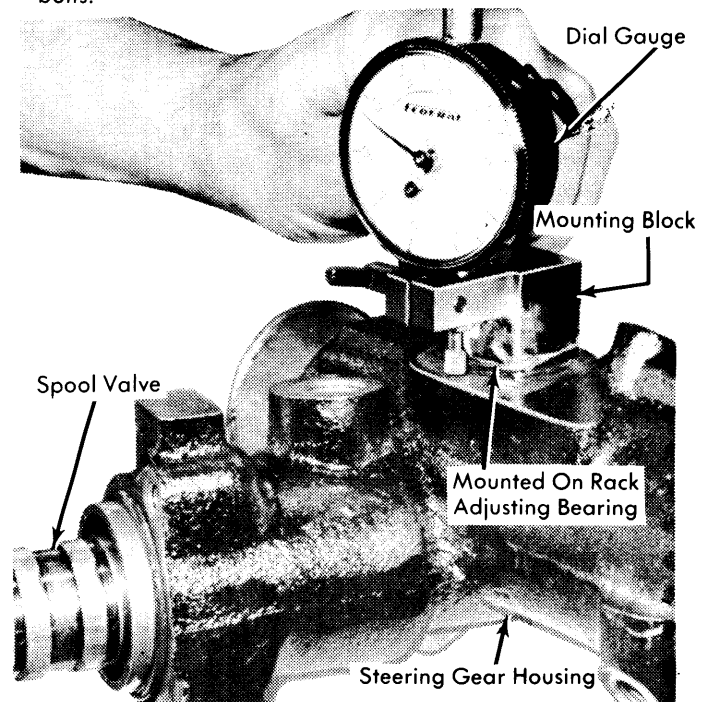

Fig. 9 Measuring Rack Adjusting Bearing Deflection
5) Screw lower bearing seat onto pinion shaft. Adjust bearing so that when pinion shaft float is removed, there is 1.62" (41.15 mm) between gear housing flange and top of spool valve (see Fig. 9). Install shim and pinion shaft end cover to gear housing, torque bolts to 9-12 ft. lbs. (1.2-1.7 mkg). Recheck gear housing flange to top of spool valve. If measure-